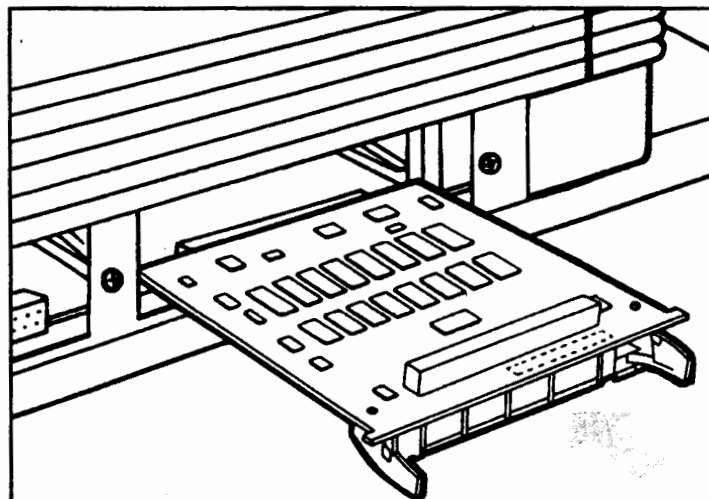

Figure C-4. Installing a Board
5. To install the first board, remove it from its antistatic packaging (be sure to follow antistatic procedures previously mentioned) and hold it with the surface to which the components are attached *up*. Slide the board into the printer using the slot guide rails (see Figure C-4). Be sure the board is within the guide rails.